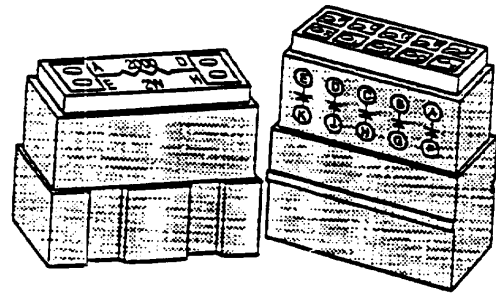

Figure 12. Series I Electronic TJS Blocks
26. ELECTRONICS BLOCKS (ELECTRONIC MODULES). Like the feedback bussing blocks, electronic blocks (Figure 12) have one face containing contact cavities. The contact cavities are internally connected by passive electronic components in various combinations. Blocks are normally contained and retained in a rack or mounting bracket.